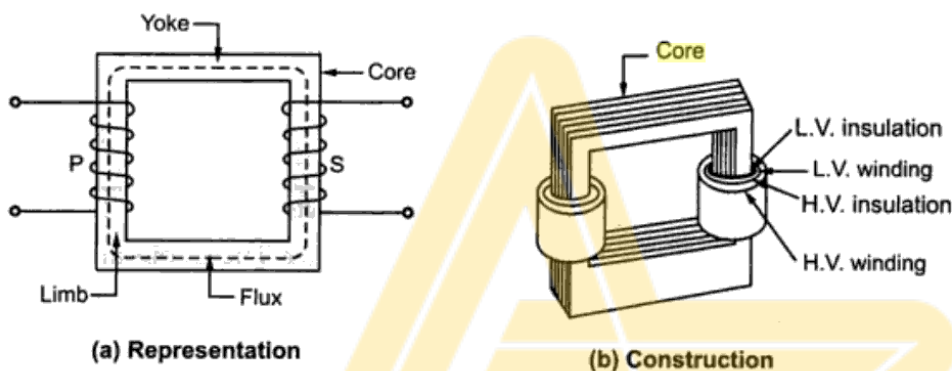

Fig 3.4.1 :Core Type of Transformer
- Fig 3.4.1(a) shows the schematic representation of the core type transformer while 3.4.2(b) shows the view of actual construction of the core type transformer.